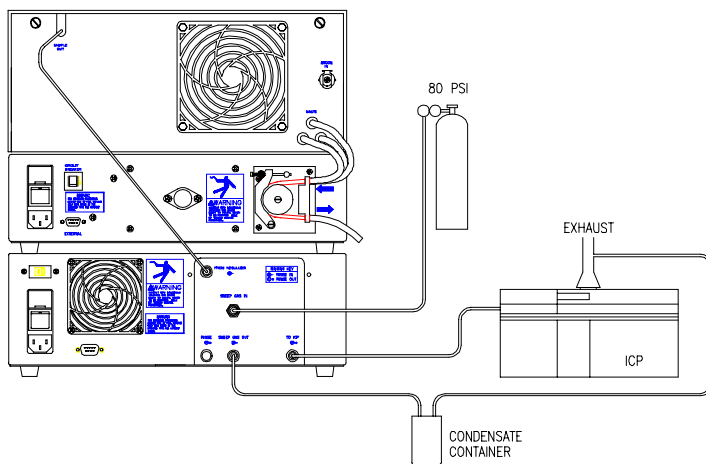

Figure 3-4. U-6000AT⁺ Tubing Diagram--Organic Samples.
- ***Prior to the analysis of volatile organic solvents, the user should provide an adequate container for safely collecting condensate from the sweep gas out line prior to exhaust (Figure 3-4). Precautions should be taken to assure solvents in condensate container are not mixed.***